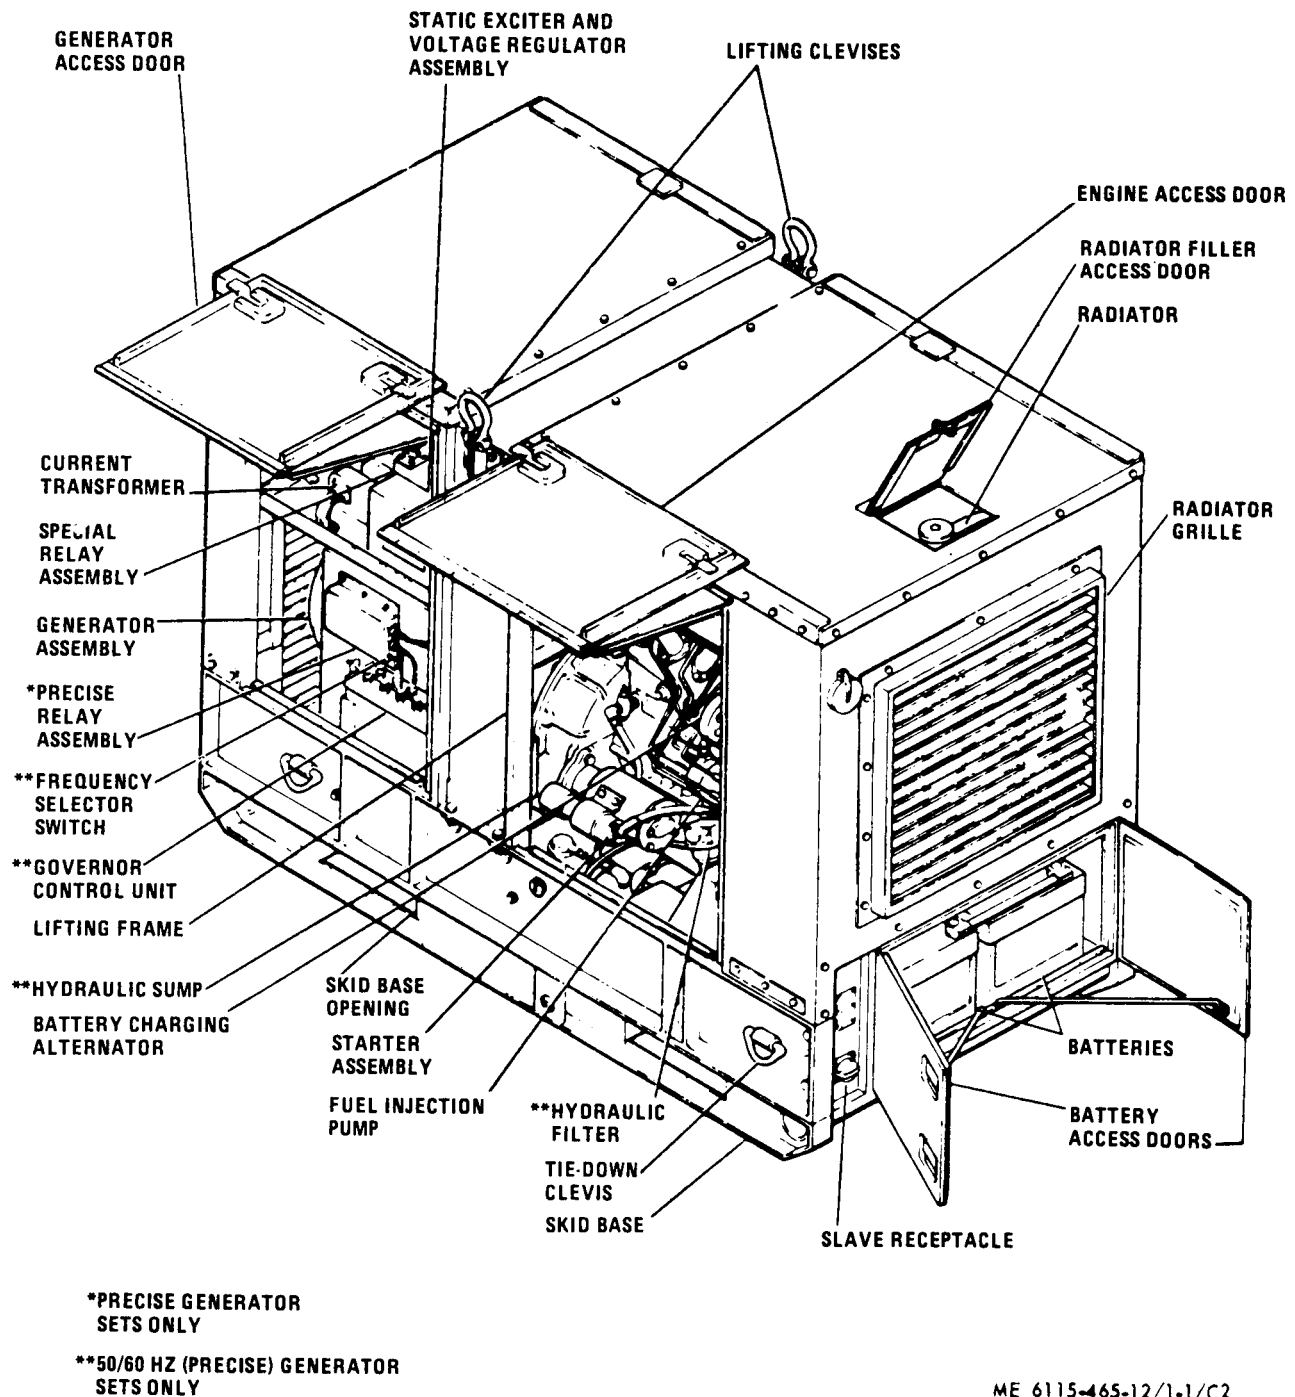

Figure 1-1. Engine Generator Set Right Front
a. General. The generator sets, models MEP-005A, MEP-104A and MEP-114A (figures 1-1, 1-1.1 and 1-2) are fully enclosed, self-contained, skid mounted, portable units. They are equipped with controls, instruments and accessories necessary for operation as single unit or in parallel with one or more units of the same class and mode. Each set is equipped with engine oil pan heating elements and necessary connections for field installation of winterization kits. Lifting clevises for hoisting the generator set are located at the top of the lifting frame and center support assembly. Tubular cross members, that will accept a chain, have been provided at the front and rear of the skid base assembly to permit towing or short distances. Mobility of the units may be obtained by mounting on trailers or equipping with a wheel mounting kit. To extend the capability of the generator sets, they have also been designed to accept and operate with the following optional kits:
(1) Fuel Burning Winterization Kit (paragraph 4-3).
(2) Electric Winterization Kit (paragraph 4-9).
(3) Wheel Mounting Kit (paragraph 4-15).
(4) Load Bank Kit (paragraph 4-20).
(5) Automatic Transfer Panel **50/60 Hz: Monitors 50/60 Hz**